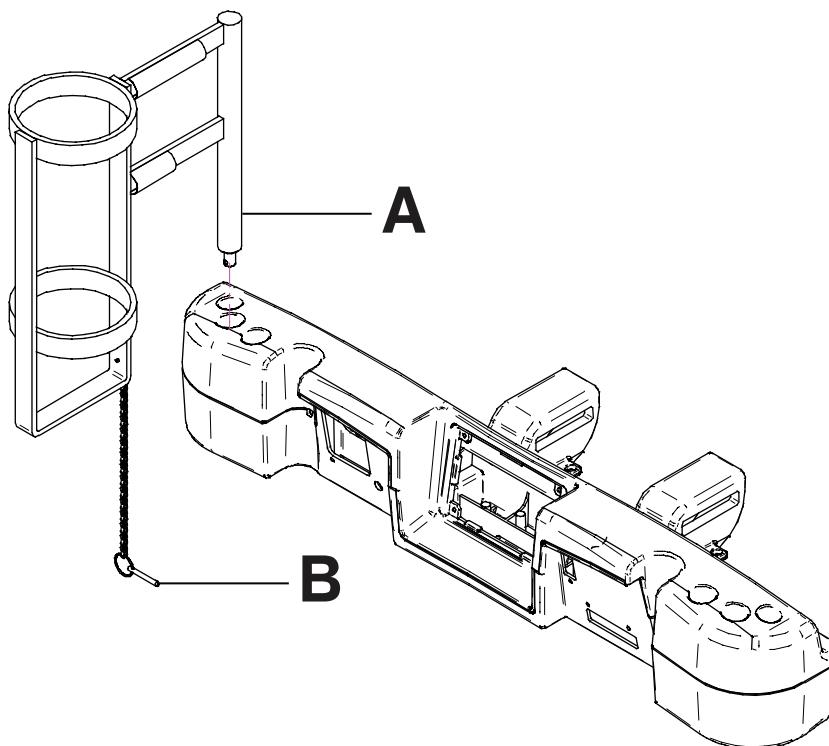

Figure 132: Upright oxygen bottle holder
1. Insert the support bar into the socket at the head end or foot end of the product on either side (A) (Figure 132 on page 115).
2. Insert the security chain pin (B) through the support bar hole (Figure 132 on page 115) to secure the bottle holder to the product.